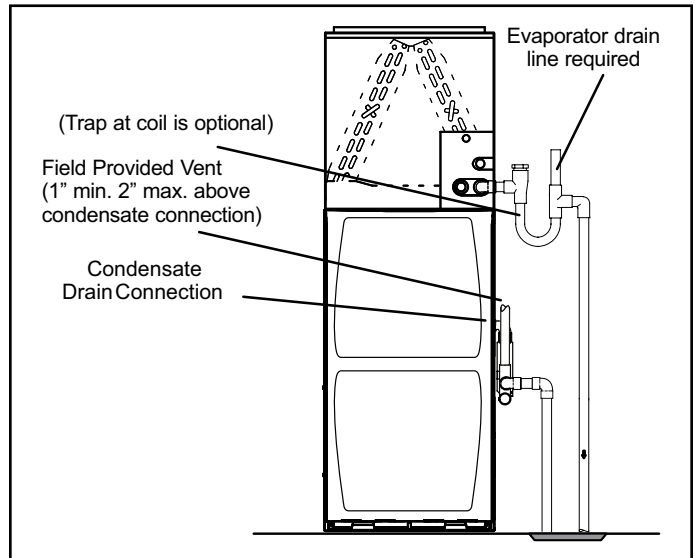
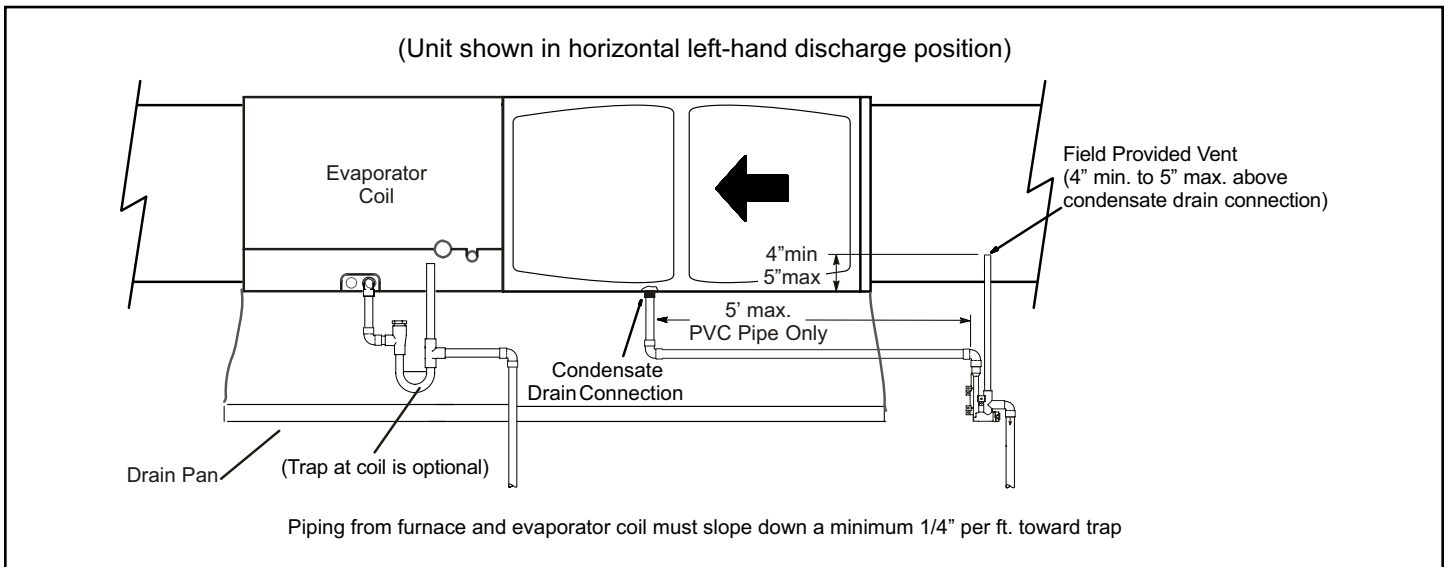
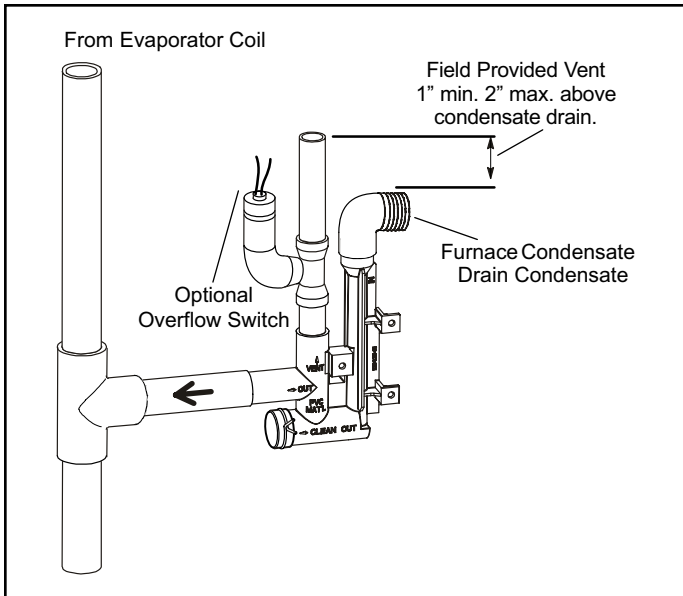
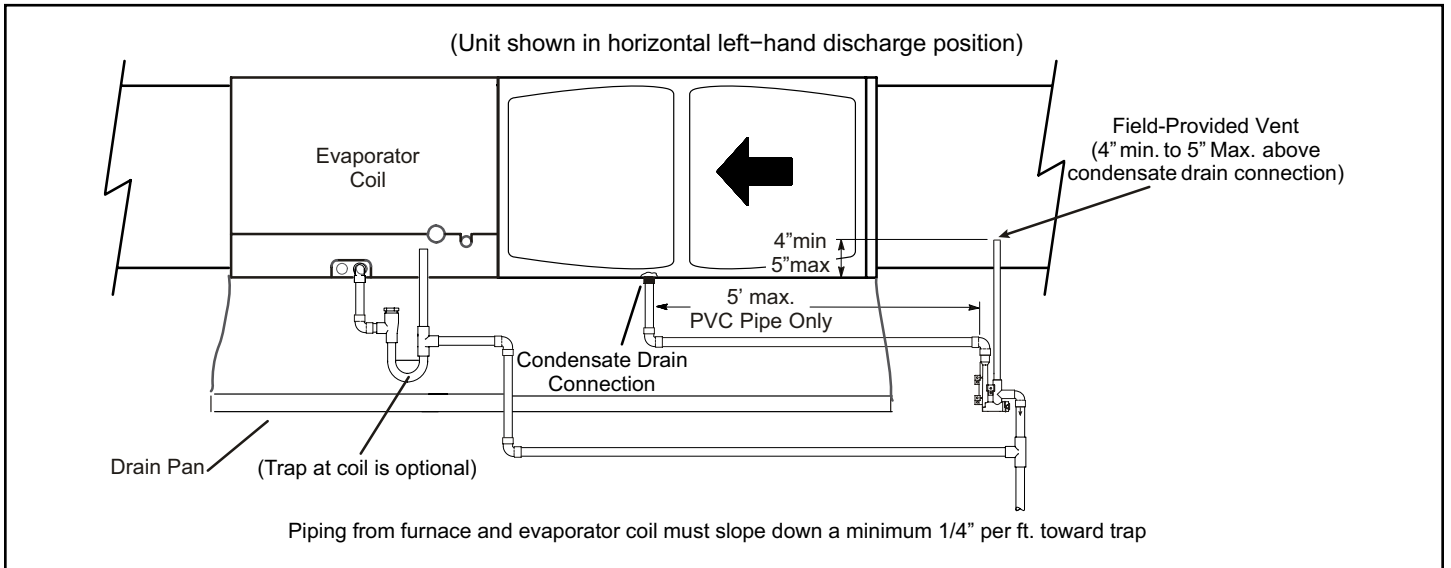

Figure 40. Furnace with Evaporator Coil Using a Separate Drain
Figure 41. Furnace with Evaporator Coil Using a Separate Drain
Figure 42. Condensate Trap With Optional Overflow Switch
Figure 44. Furnace with Evaporator Coil Using a Common Drain
5. Figure 40 and Figure 41 show the furnace and evaporator coil using a separate drain. If necessary the condensate line from the furnace and evaporator coil can drain together. See Figure 42 through Figure 44.
Upflow furnace (Figure 40) - In upflow furnace applications the field provided vent must be a minimum 1" to a maximum 2" length above the condensate drain outlet connection. Any length above 2" may result in a flooded heat exchanger if the combined primary drain line were to become restricted.
Horizontal furnace (Figure 41) - In horizontal furnace applications the field provided vent must be a minimum 4" to a maximum 5" length above the condensate drain outlet connection. Any length above 5" may result in a flooded heat exchanger if the combined primary drain line were to become restricted.